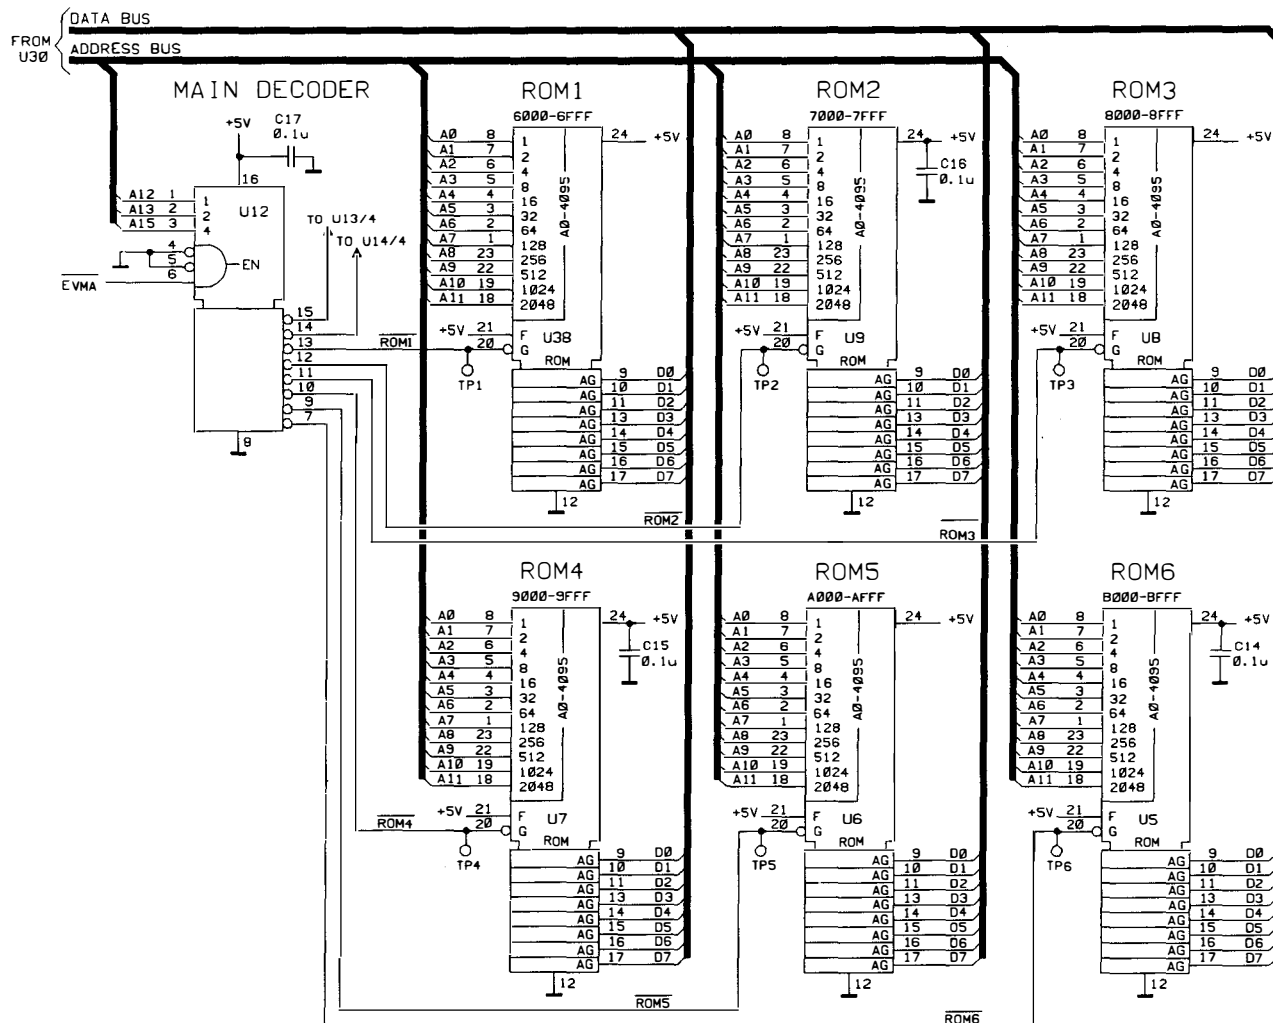

Figure B-5. 08116-66533: ROM schematic
3. Figure B-5 shows the change to Figure 10.7-5 for enabling five individual ROMs.